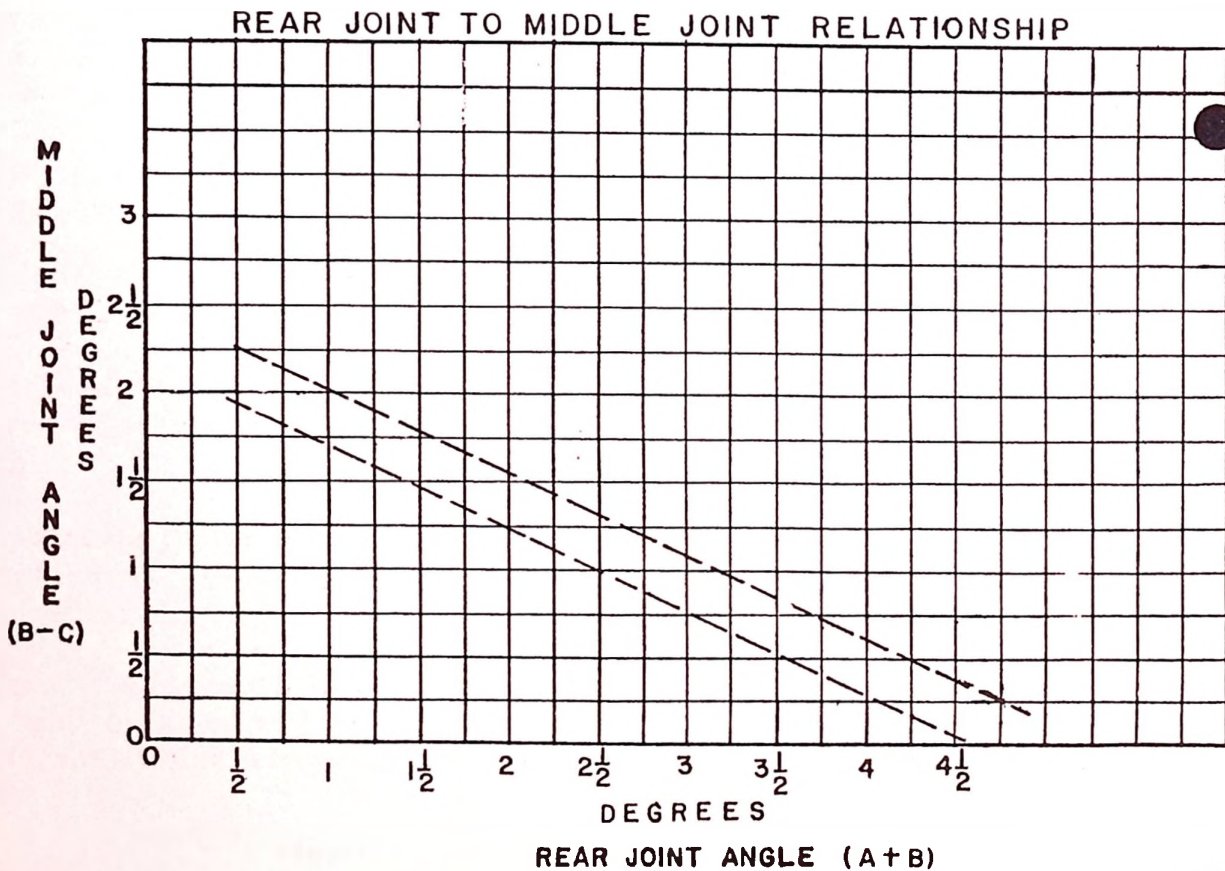

FIG 2
- b) Measure the angle of the front shaft with respect to horizontal. The front shaft should be sloping downward toward the rear of the car but less than the rear shaft. The difference (subtract) of the front and rear shaft angles with respect to horizontal is the working angle of the middle joint. With a  $3^{\circ}$  rear joint working angle the middle joint working angle should be approximately  $1^{\circ}$ , one  $1/16$ " shim changes the middle joint working angle approximately  $1/4^{\circ}$ . (For relationship of rear joint working angle to middle joint working angle see Figure 2.) The area between the lines represents the range of acceptability. (Example - With a rear joint working angle of  $2-3/4$  degrees a satisfactory middle joint angle would be 1 degree. This is found by going up the  $2-3/4$  degree line into the range of acceptability and then horizontally to the left hand edge where the middle joint angle of 1 degree is read. For other rear joint angles comparable middle joint angles are found).